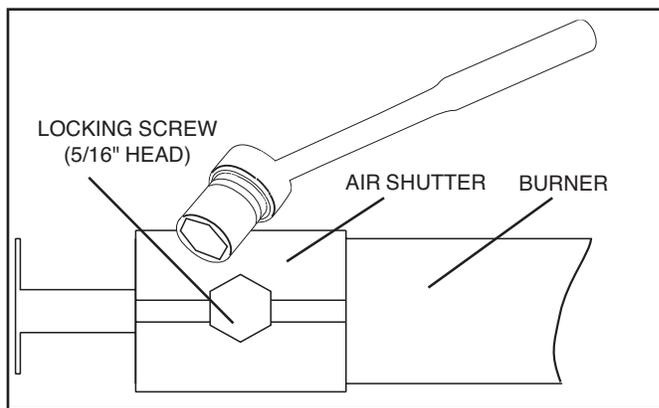

Figure 5 - Removing the Air Shutter Locking Screw
6. using a 5/16 inch wrench. (See Fig. 5 below.)